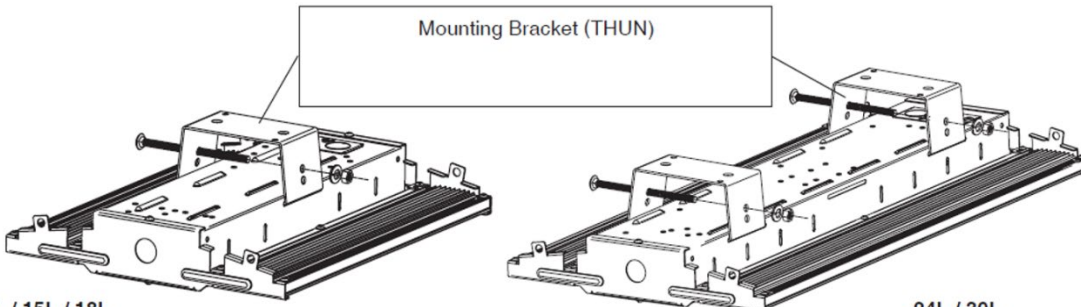

Figure 4
3. Install supplied nut and lock-washer. Properly tighten nut to secure THUN bracket around center channel- **See Fig 4.**